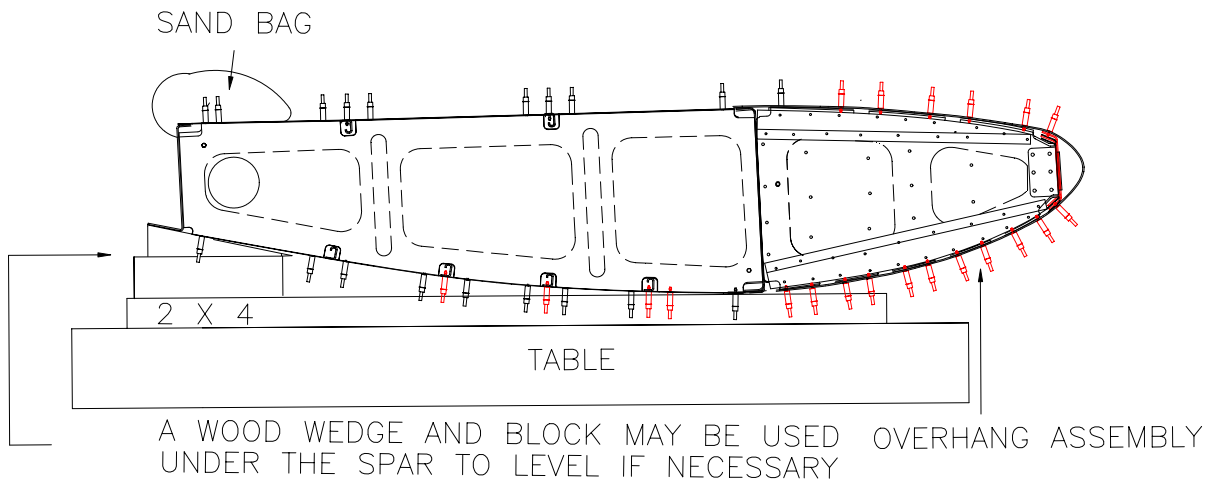

Figure 8.18.2
4) Cleco the bottom section of the Leading Edge Skin in place. Figure 8.18.2.